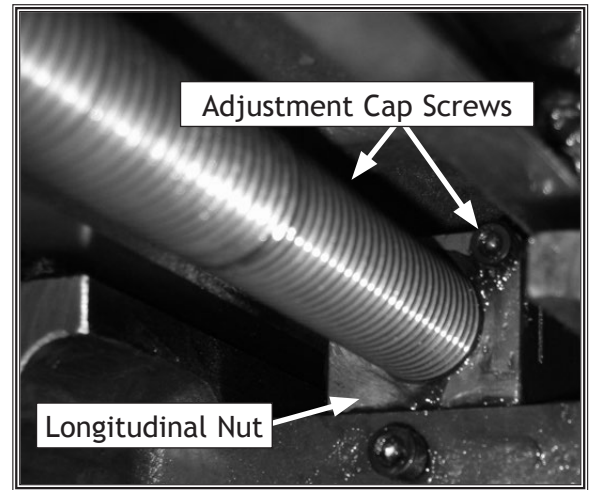

Figure 32. Longitudinal nut.
1. Slightly tighten the two cap screws on the longitudinal nut (see **Figure 32**). DO NOT overtighten.